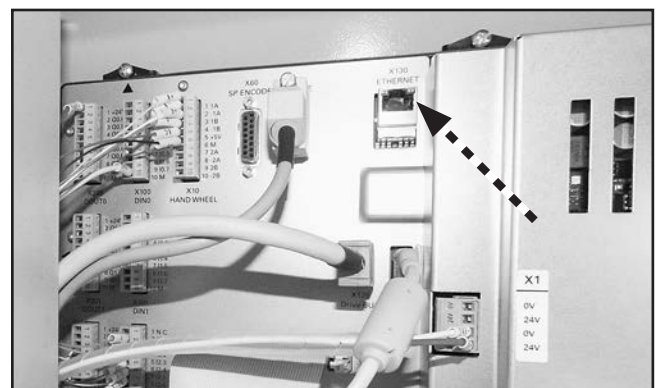

Figure 121. Ethernet port location on PPU.
2. Connect one end of ethernet cable to personal computer, then connect opposite end to ethernet port on rear of PPU, as shown in **Figure 121**.